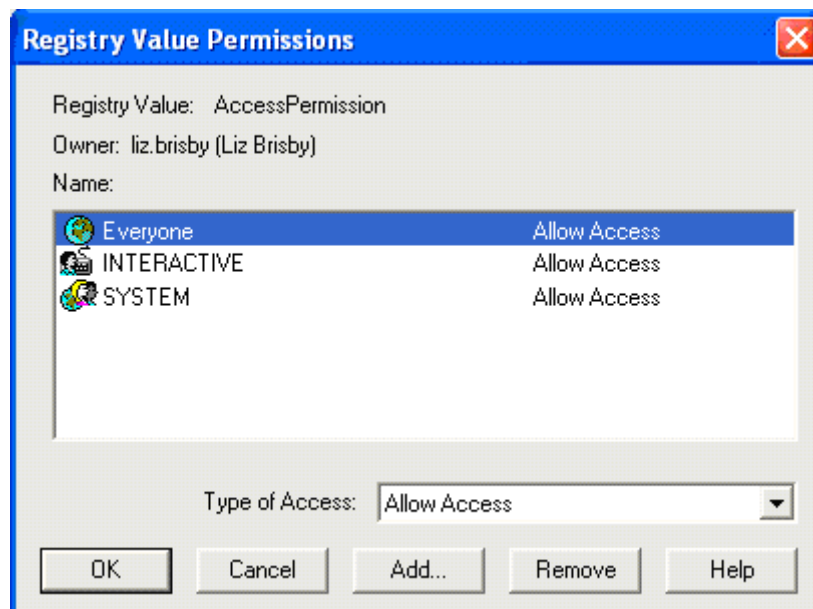

Figure 63 - Registry Value Permissions Window
8. The **Registry Value Permissions** window (Figure 63) appears.